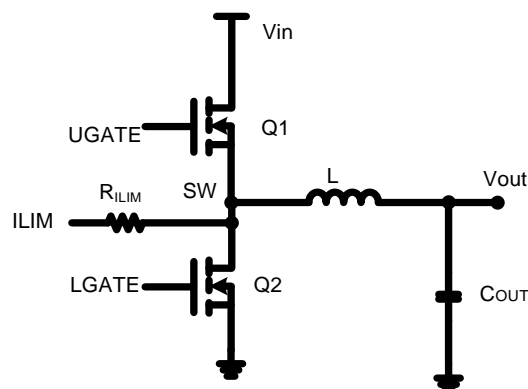
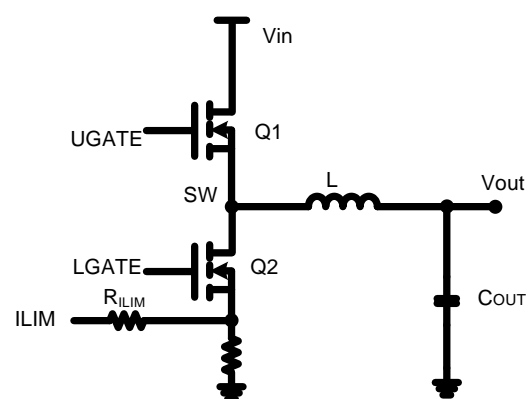

Figure15. MOSFET $R_{DS(on)}$ Current Sensing
Figure16. Shunt Resistor Current Sensing
current drops below the valley current limit can the high-side MOSFET be turned on. To provide both good accuracy and cost effective solution, the JWH6344 supports temperature compensated MOSFET $R_{DS(on)}$ sensing mode and shunt resistor sensing mode, and it detects the appropriate mode at start-up and sets the source current amplitude and temperature coefficient (TC) accordingly. Figure15 portrays the $R_{DS(on)}$ sensing mode which resistor R_{ILIM} is tied to SW to use the $R_{DS(on)}$ of the low-side MOSFET as a sensing element (termed $R_{DS(on)}$ mode) and Figure16 shows the shunt resistor sensing mode which R_{ILIM} is tied to a shunt resistor connected at the source of the low-side MOSFET (termed R_{SENSE} mode).